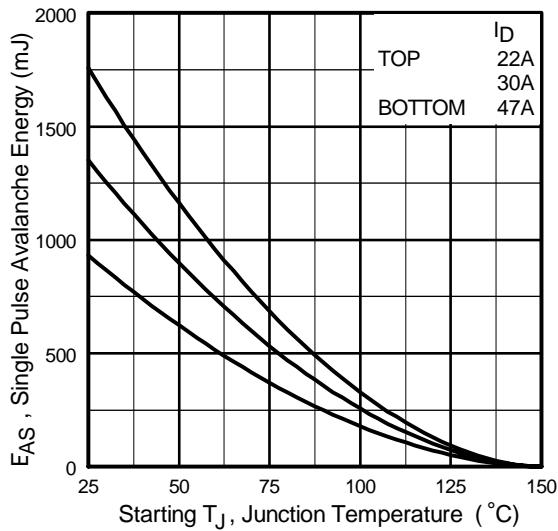

Fig 12a. Maximum Avalanche Energy Vs. Drain Current
- ② Starting $T_J = 25^\circ\text{C}$, $L = 0.82\text{mH}$, $R_G = 25\Omega$, $I_{AS} = 47\text{A}$ (See Figure 12a).
- ③ $I_{SD} \leq 47\text{A}$, $di/dt \leq 230\text{A}/\mu\text{s}$, $V_{DD} \leq V_{(\text{BR})\text{DSS}}$, $T_J \leq 150^\circ\text{C}$.
- ④ Pulse width $\leq 400\mu\text{s}$; duty cycle $\leq 2\%$.
- ⑤ $C_{oss \text{ eff.}}$ is a fixed capacitance that gives the same charging time as C_{oss} while V_{DS} is rising from 0 to 80% V_{DSS} .